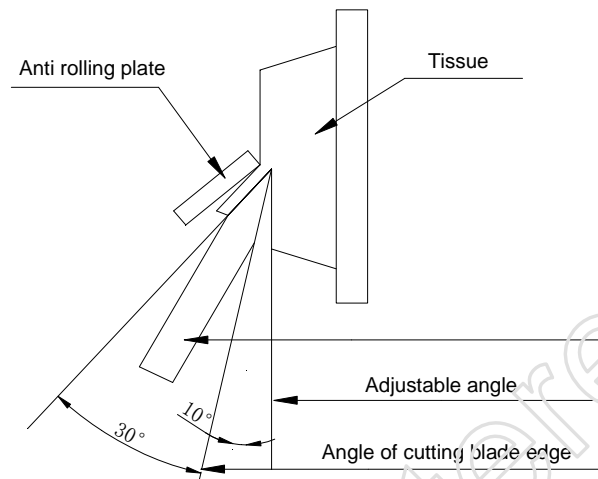

Fig 16
2. Adjust the anti rolling plate angle with the blade. (Fig 16)